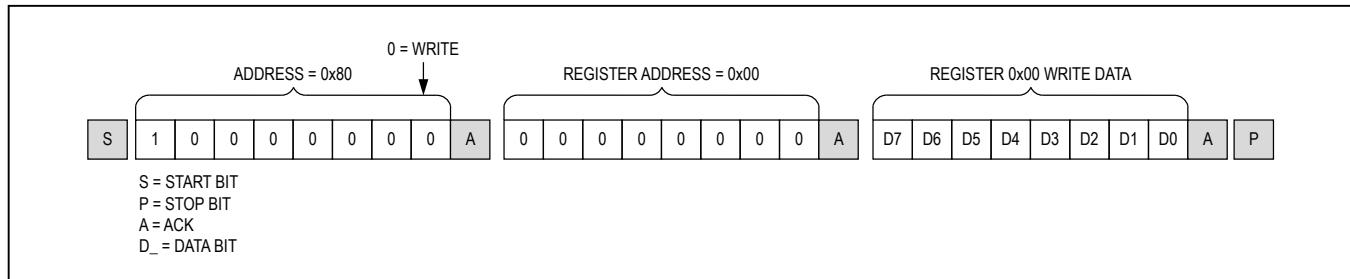
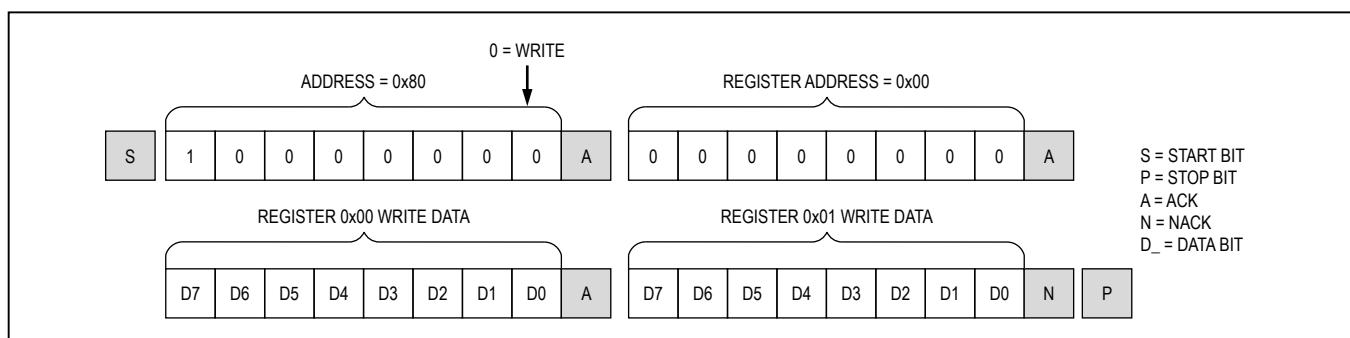

Figure 31. Format for I2C Write
Figure 32. Format for I2C Write to Multiple Registers
Writes to the serializers comprise the transmission of the slave address with the R/W bit set to zero, followed by at least one byte of information. The first byte of information is the register address or command byte. The register address determines which register of the device is to be written by the next byte, if received. If a STOP (P) condition is detected after the register address is received, the device takes no further action beyond storing the register address (Figure 31). Any bytes received after the register address are data bytes. The first data byte goes into the register selected by the register address, and subsequent data bytes go into subsequent registers (Figure 32). If multiple data bytes are transmitted before